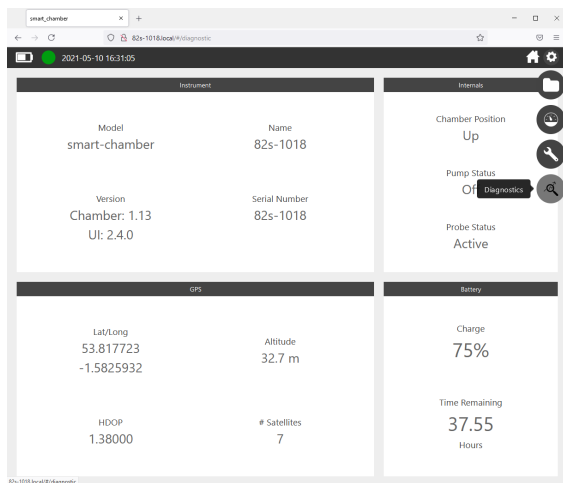

Figure 3. Smart Chamber diagnostics page showing that it is connected to multiple satellites and confirming that the chamber has achieved GPS lock.
- 3 Check that the Smart Chamber has obtained GPS lock (Figure 3).